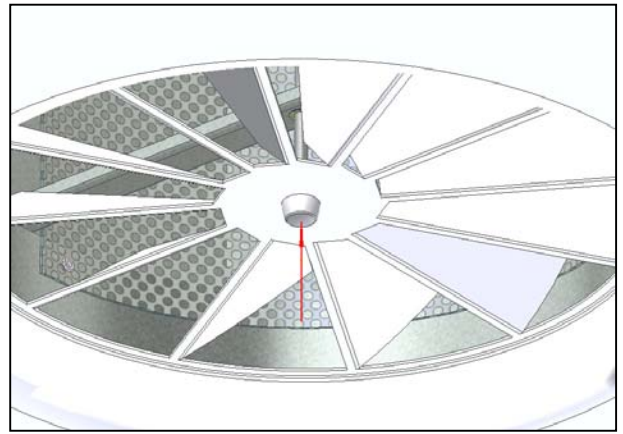

Figure 8: Refit cap on fixing screw
8. Finally, Clip the plastic cap back onto the head of the fixing screw (figure 8).